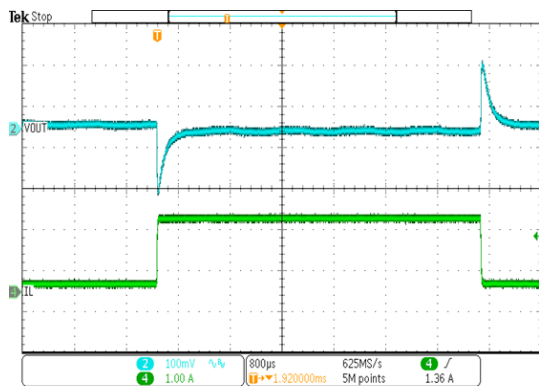

Figure 19. Load Transient (Vout=5V, Iout=0.2A to 1.8A, SR=250mA/us)
The SCT9325 feature external programmable output voltage by using a resistor divider network  $R_1$  and  $R_2$  as shown in the typical application circuit Figure. 19. Use equation (11) to calculate the resistor divider value.